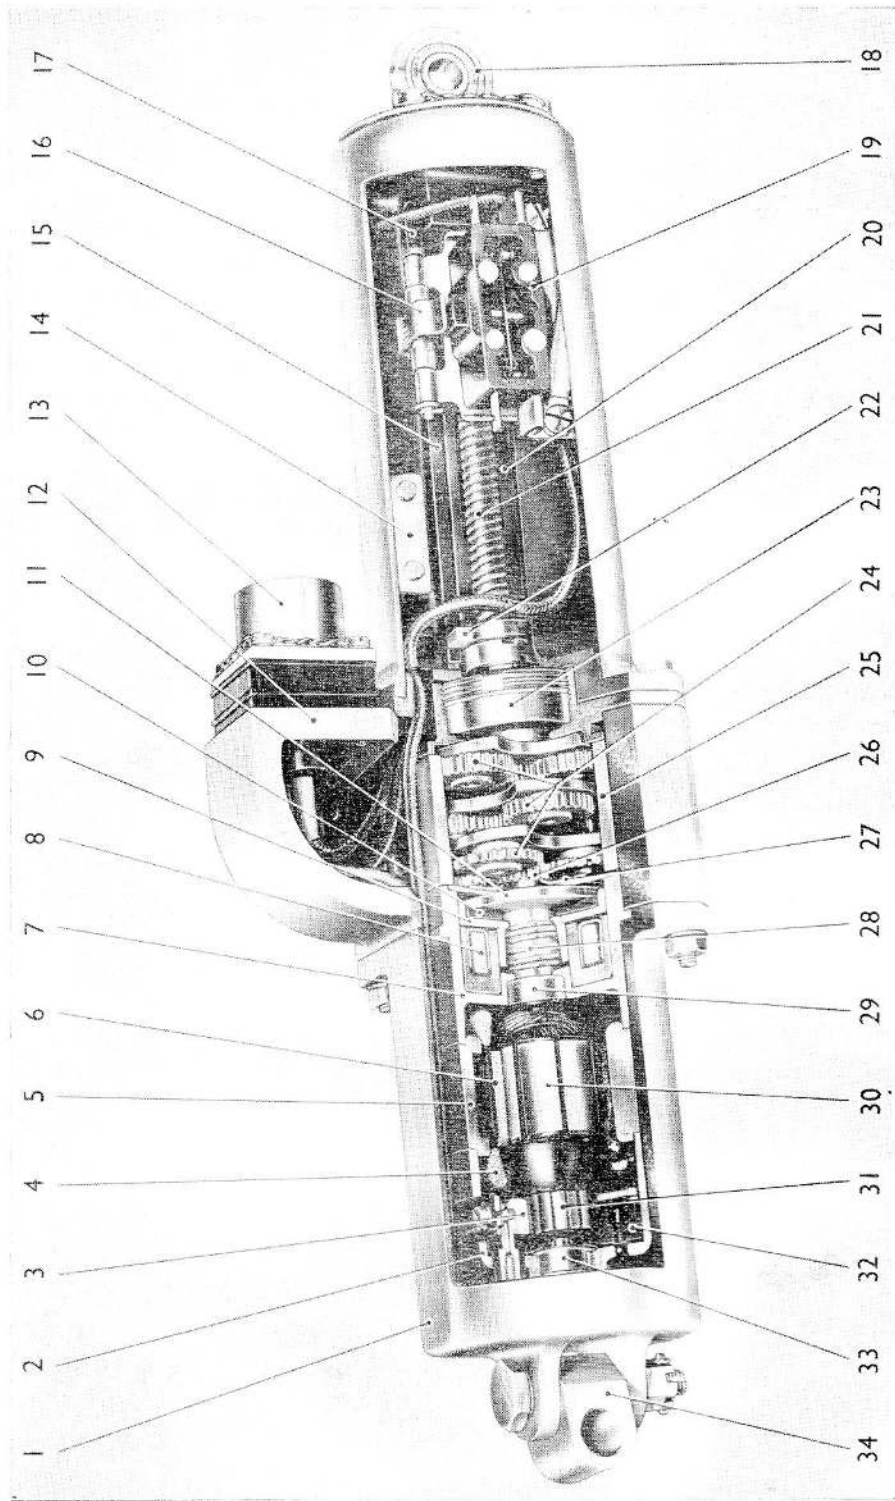

Fig. 2. Sectional view of actuator
KEY TO FIG. 2
3. The motor (fig. 2) is a reversible split-field series type with an integral electromagnetic brake. The motor is located by a spigot in the gear housing; the motor pinion is part of an assembly and is pin-driven by the armature shaft. The armature is dynamically balanced to eliminate vibration.
4. The gearbox assembly (fig. 2) comprises the main housing (enclosing the toothed annulus) with the three-stage epicyclic gear train. The lead screw is extended into the gearbox, where it is supported in a bearing. One stage of the gearing is supported on a carrier integral with the lead screw extension; the other two gear stage carriers, for support and bearing purposes, are freely located on the lead screw extension, where they are retained by a circlip.